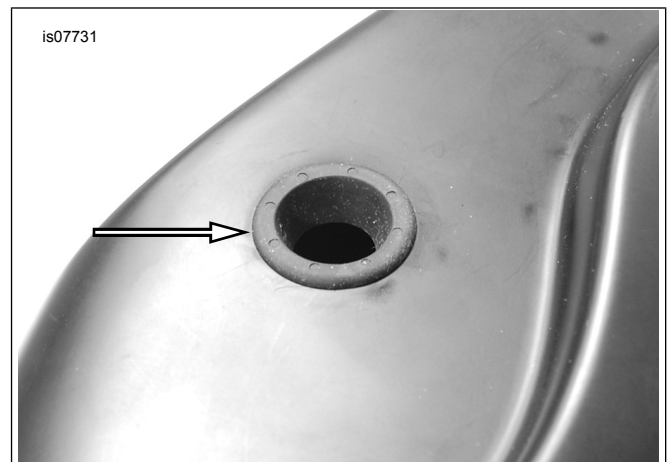

Figure 1. Lever Grommet
1. See Figure 1. Install the grommet from the original cover in the lever hole.